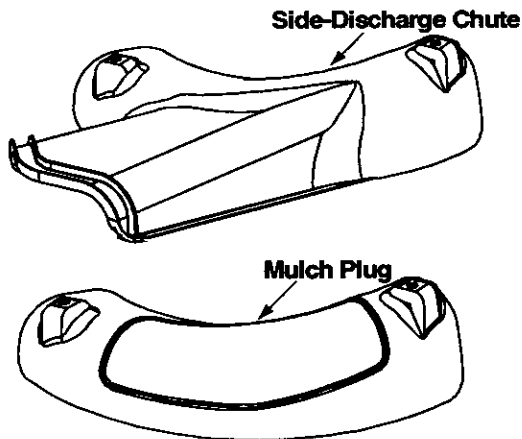

Figure 1
1. Remove loose parts from the grass catcher and/or the crate very carefully. Compare with list below and part illustrations in Figure 1.